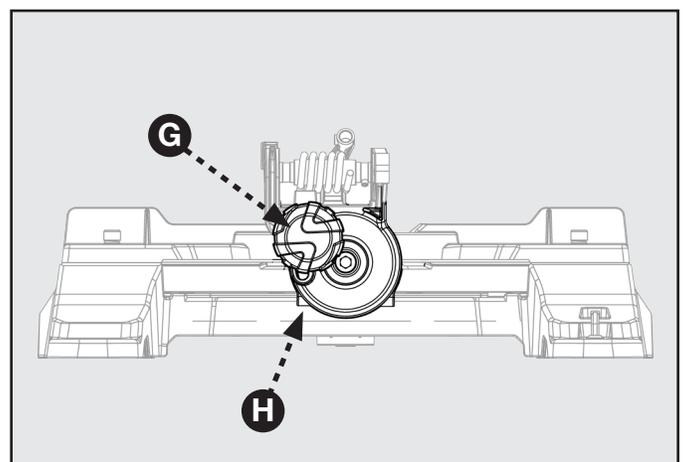

FIGURE 12
10. If the top or bottom of the blade face is not flush with the square, refer to Figure 12 below and perform the following steps.
Refer to Figure 12.